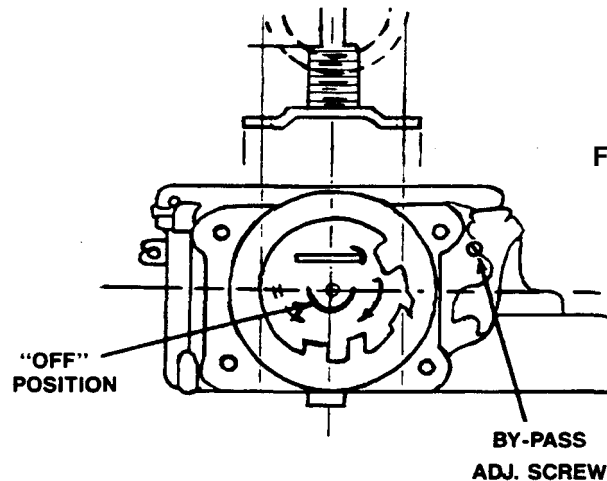

Figure 2
- D. **CONTROL BOX ASSEMBLY COMPONENTS (Double Oven Base Range Units (See Fig. 2, Section 4, Page 4):** The control box assembly components are easily serviceable by removing two screws (one at the top and one at the bottom) of the control panel and then sliding out the control box. However, before attempting to slide out the control box, follow the instructions on the "CAUTION" label attached to the unit lower front panel. The "CAUTION" label reads as follows:
- G. **208/236V 75VA TRANSFORMER (Double Oven Range Base Unit Only):** The transformer is located in the cooling blower box at the rear of the unit (See Fig. 2 & 5, Section 4, Pages 4 & 6) and is serviceable only from the rear of the unit. To gain accessibility, remove either side cover of the blower box.